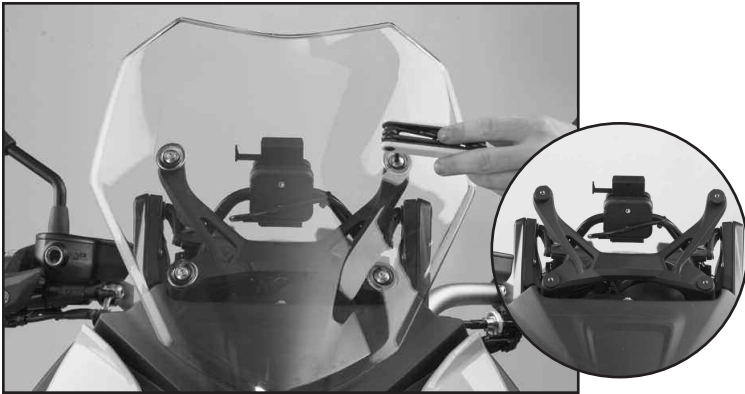

Figure 1
2. Remove the stock windscreen. The 4 OEM screws will be re-used. **Figure 1**